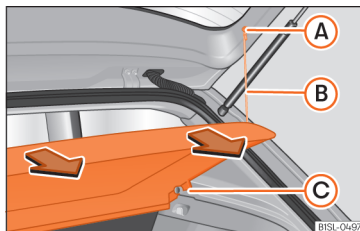

Fig. 136 In the boot: removing and installing the rear shelf.
- Unhook the loops »» Fig. 136 (B) from housings (A).
- Extract the shelf from its housing (C) upwards and then pull it out.